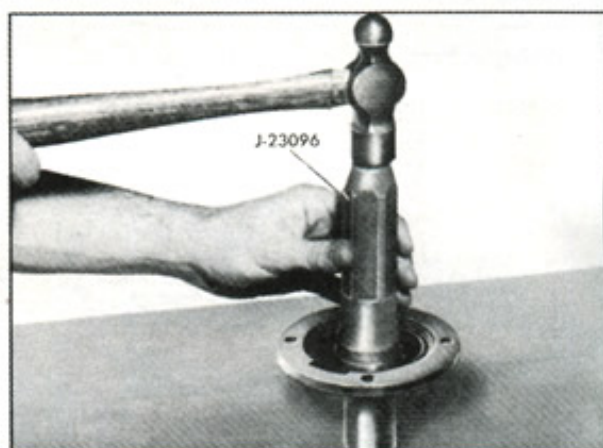

Fig. 13—Installing Drive Gear Retainer Seal
2. Using a new seal, install new seal into retainer using Tool J-21359 until it bottoms in bore (Fig. 13). Lubricate I.D. of seal with transmission lubricant.